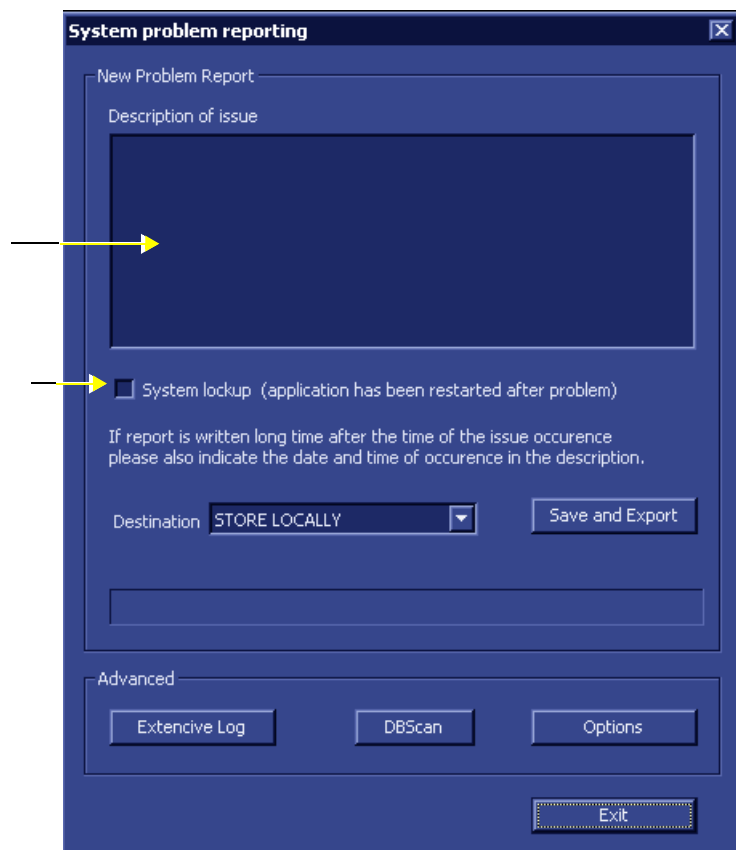

Figure 7-144 System Problem Reporting Dialog
The System Problem Reporting dialog opens - see Figure 7-144 on page 7-167.
- 2.) Click the **Extensive Log** button (refer to Figure 7-144 on page 7-167).
- 1.) From the System Problem Reporting dialog (Figure 7-144 on page 7-167), click the **Options** button.